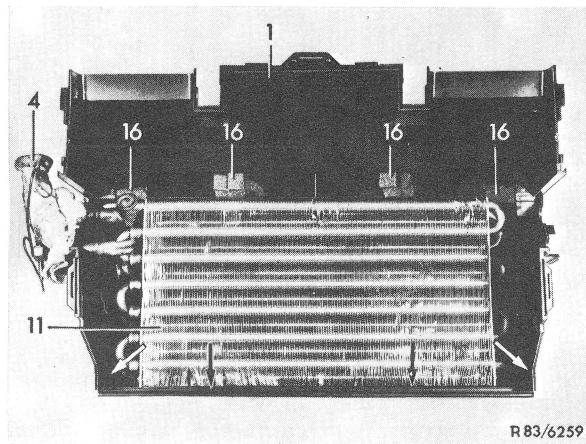

Figure 4
13 Slide moltopren seals (16) between evaporator and evaporator box as shown in Fig. 4. Provide three surfaces of evaporator box with teroson cord (refer to arrows in Fig. 4).